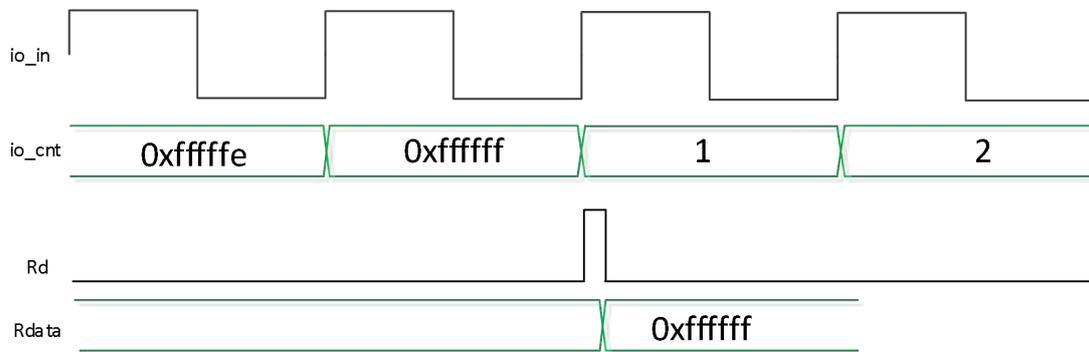

Figure 13 Overflow and read at the same time (rising edge counting)
- An overflow occurs at the same time as a read, at which point the read goes to  $0xfffff$  while the count value changes to 1.  $io\_cnt = 1$  when an overflow occurs at the same time as a read clear. as shown in Figure 13.